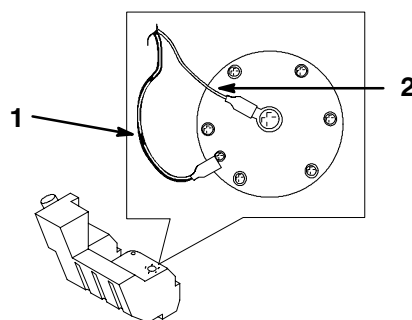

Figure 44
12. Disconnect the two wires leading to the right side of the tank (Fig. 44).
19. On the right side of the tank, connect the orange wire to the center post and the black wire to the outside post (Fig. 44).